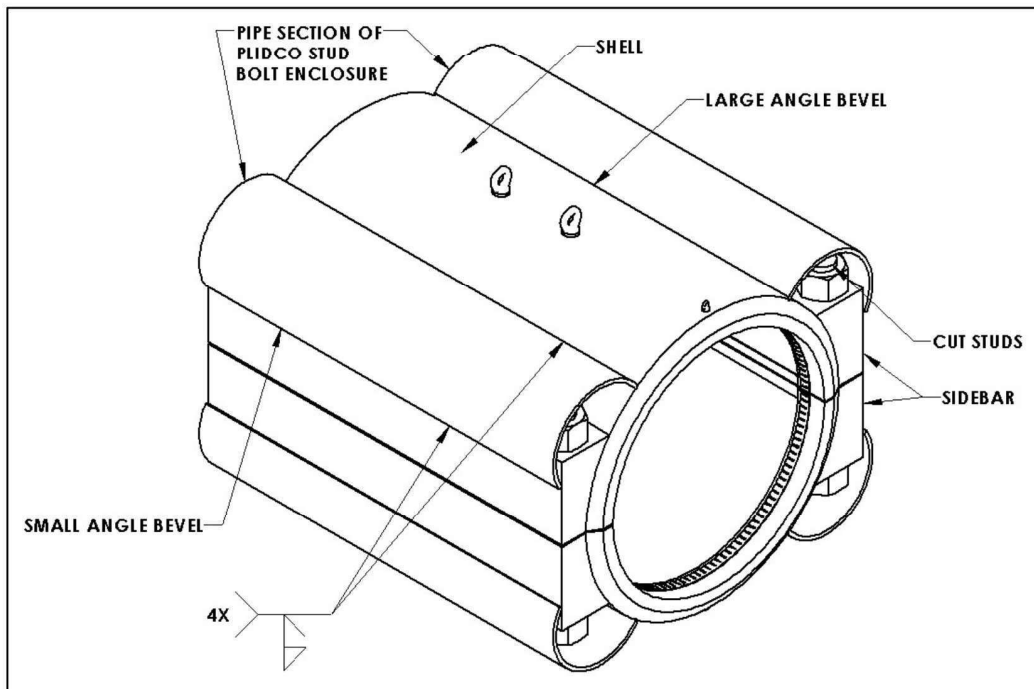

Figure 1
2. Fit the pipe sections of the Stud Bolt Enclosure centered over the sidebars as shown in Figure 1 & 2.